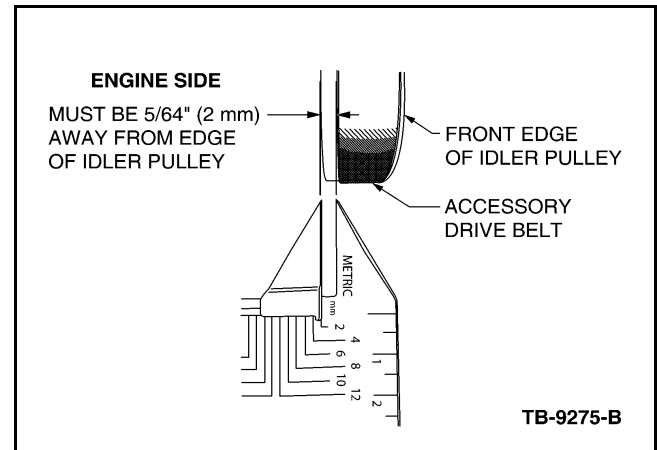

Figure 1 - Article 09-7-7
2. Inspect for FEAD belt clearance on the idler pulley. A properly aligned belt will have an approximate  $3/32''$  (2 mm) space behind the belt on the idler pulley. (Figure 1)